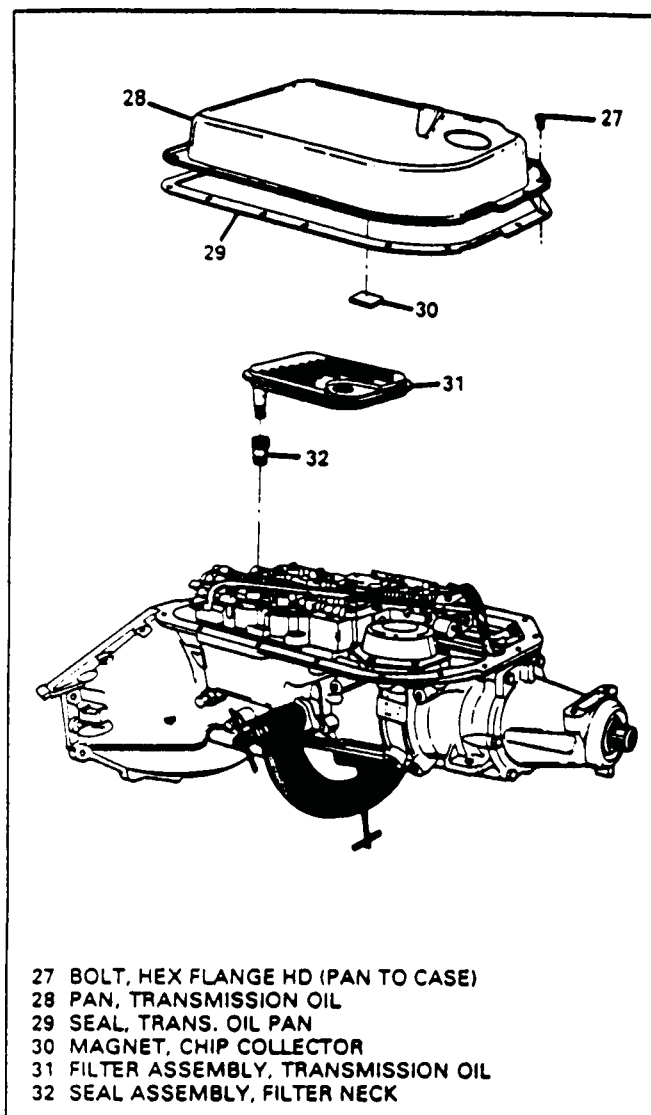

Figure 126
1. Install new filter seal into the case bore (See Figure 126).
2. Install the filter assembly into the filter seal (See Figure 126).
3. Install the bottom pan gasket onto transmission case (See Figure 126).